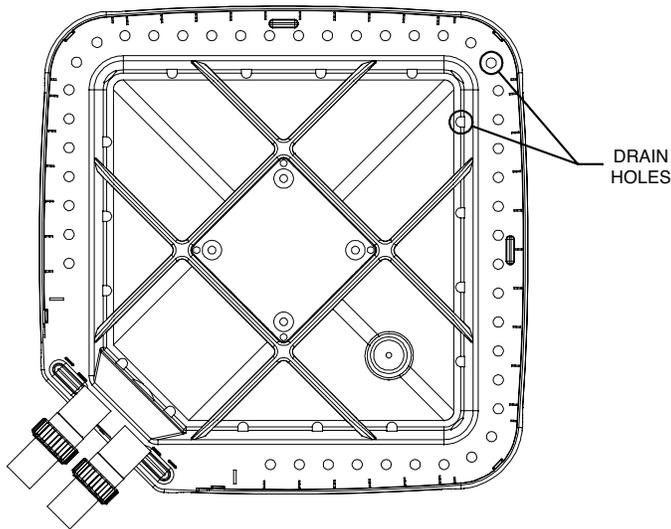

Figure 10. Condensate Drain Hole Locations
1. Routinely check to be sure the condensation drain holes in the base of the unit are not plugged with dirt or debris. See **Figure 10** for condensate drain hole locations.